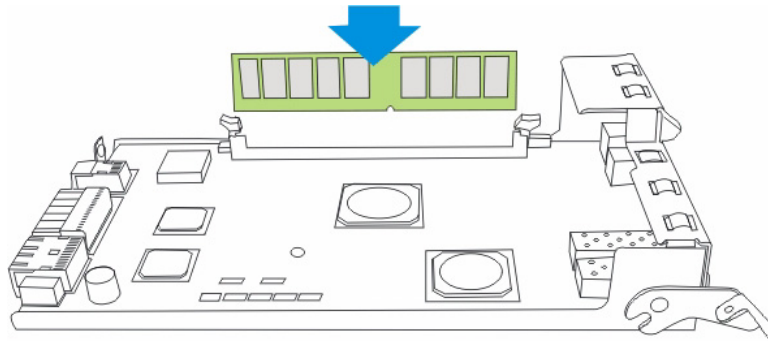

Fig. 6.7 Installing the DIMM Module
3. Re-insert the new DIMM module. Align the new DDR RAM DIMM module with the slot and gently (but firmly) push it in. The white clips on either side of the slot should automatically close and lock the new DIMM module into place. (See *Figure 6.7*)